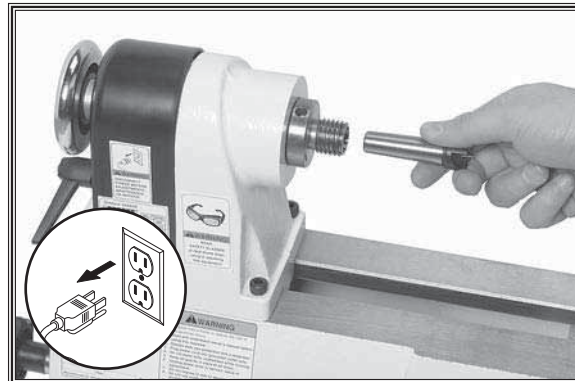

Figure 22. Example of inserting spur center into a spindle.
3. Insert tapered end of center into spindle, and push it in with a quick firm motion (see Figure 22).